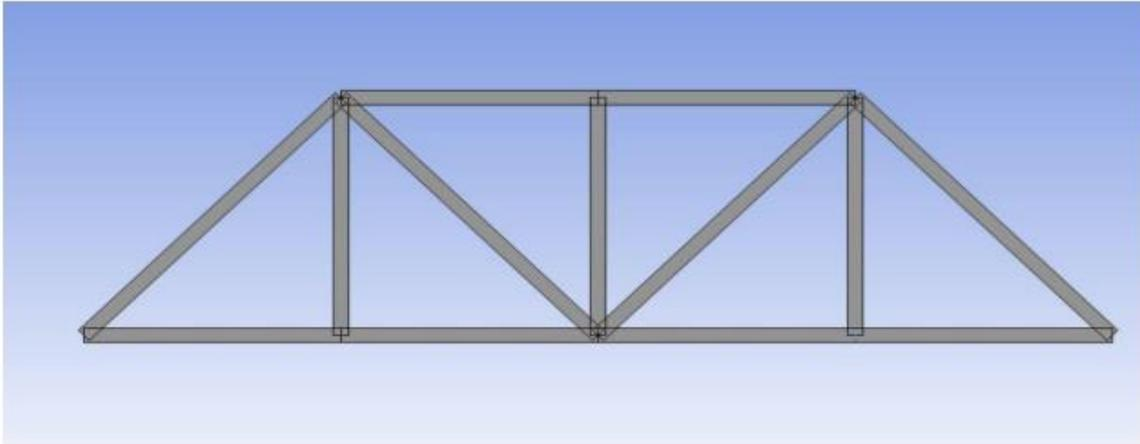

Fig 3.2 Design Modular Geometry of Truss
- Static Structure → Insert → Force → Select the Three Vertices shown in fig 3.2 of load 30KN → Apply